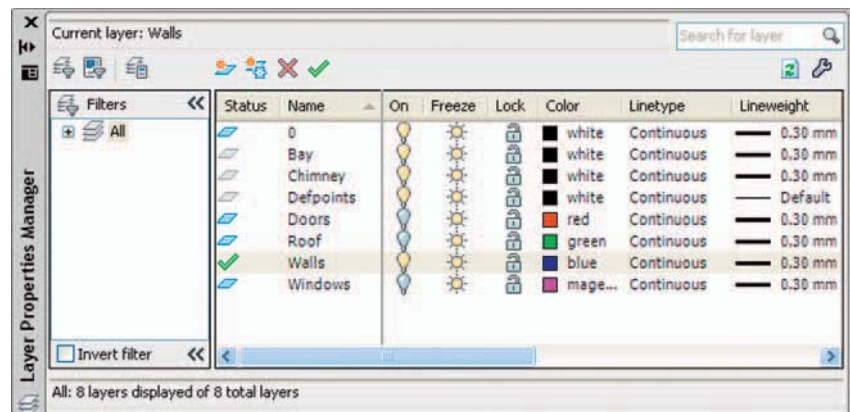

Fig. 16.9 First example – the layers on which the model is to be constructed
1. In the **Layer Properties Manager** palette – **Doors** (colour red), **Roof** (colour green), **Walls** (colour blue), **Windows** (colour magenta) (Fig. 16.9).